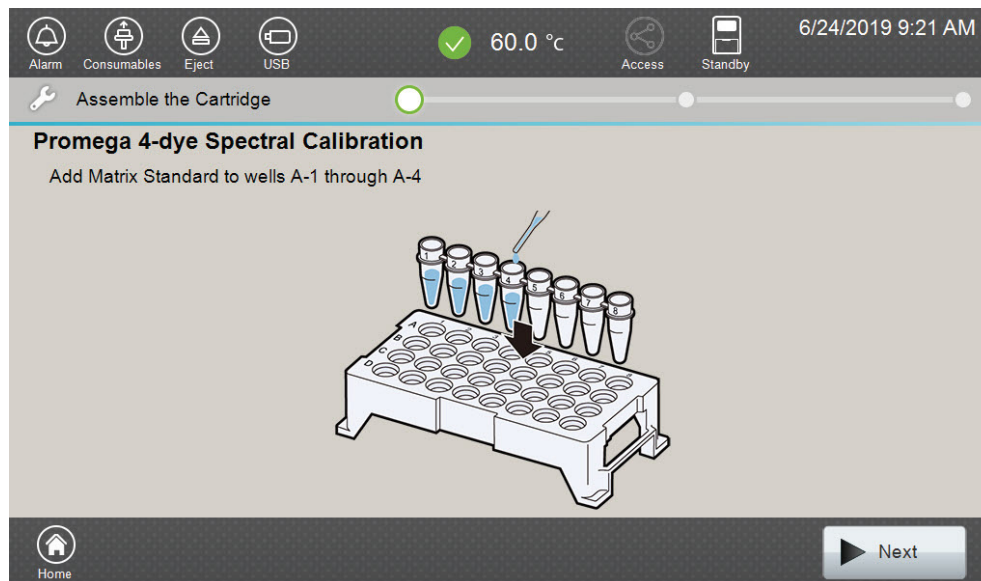

Figure 49. 'Assemble the Cartridge' screen.
4. Use the scroll arrows on the right-hand side of the 'Dye Set List' screen (Figure 48) to find the correct Dye Set/Application Type/Polymer combination from the displayed list. To perform a spectral calibration using the PowerPlex® 4C Matrix Standard on Polymer4, select **Promega 4-dye** with "Fragment" and "Polymer4" as application and polymer types, respectively, then select **Calibration**. The 'Assemble the Cartridge' screen will open (Figure 49).
5. Select **Next** on the 'Assemble the Cartridge' screen (Figure 49). A message window will open indicating that the autosampler is moving and telling the user to not open the door. In addition, the status indicator flashes green while the autosampler is moving. After autosampler movement is complete, the message window closes and the status indicator returns to a steady green.